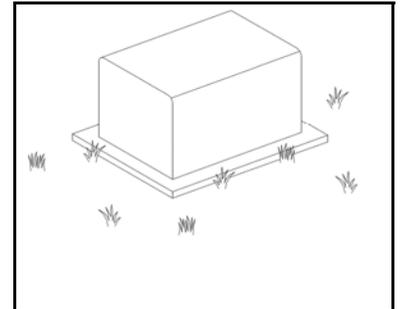

Figure 2 Padmount Transformer
- Underground service is over 150 feet from a padmount transformer (See Figure 2).